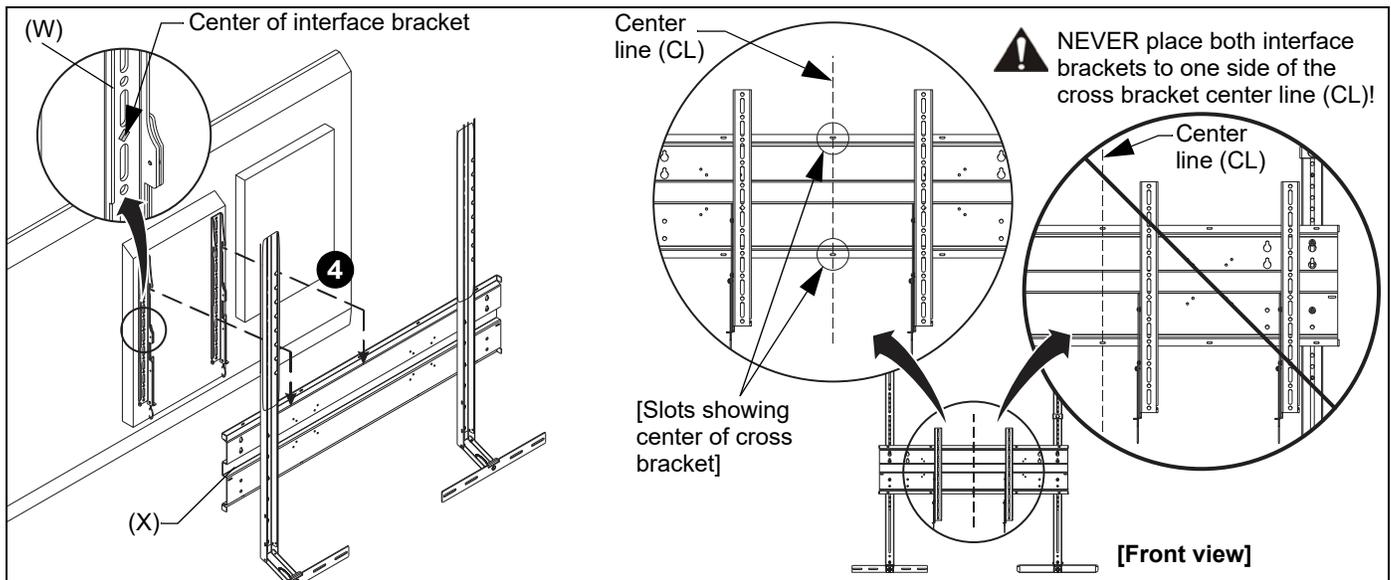

Figure 16
NOTE: Center of interface brackets should be as close as possible to the center of the flat panel back after being installed. The center of interface bracket is indicated by the diamond-shaped hole. (See Figure 16)
4. Hang flat panel with attached interface brackets onto the cross bracket (X), ensuring that one interface bracket is on each side of the cross bracket center line (CL). (See Figure 16)
NOTE: Two slots on cross bracket indicate center line of cross bracket. (See Figure 16)
IMPORTANT ! : Laterally shift flat panel along cross bracket as desired, but NEVER place both interface brackets (W) to one side of the cross bracket (X) center line! (See Figure 16)